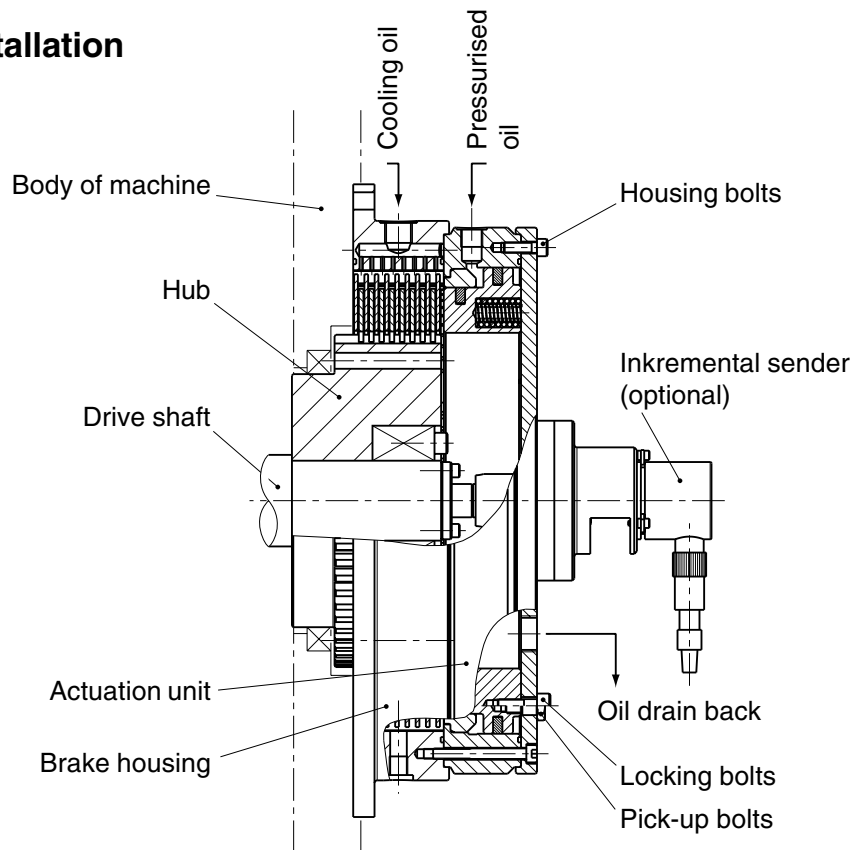

Figure 2a: Installation of the brake
- Remove **one** pick-up bolt from the actuation unit (see illustration in Figure 2a and 2b: Installation of the brake).